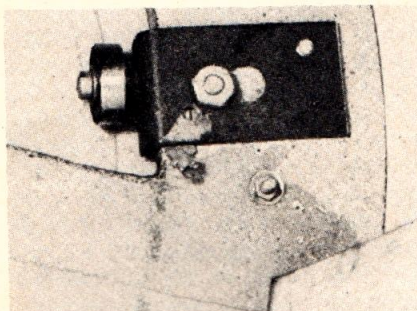

FIG. 31—BALL-BEARING WHEELS mounted on bottom bulkhead support body as it rotates.
*Unicorn-1's* body turns on ball-bearing wheels that ride on the steel plate forming the top of the mobility base. The size of those wheels is not particularly significant, as long as the body maintains its clearance from the base. The units used in the original *Unicorn-1* had a diameter of .875-inches, giving the bulkhead a clearance of .125-inch from the mobility base. One of these is shown in Fig. 31.